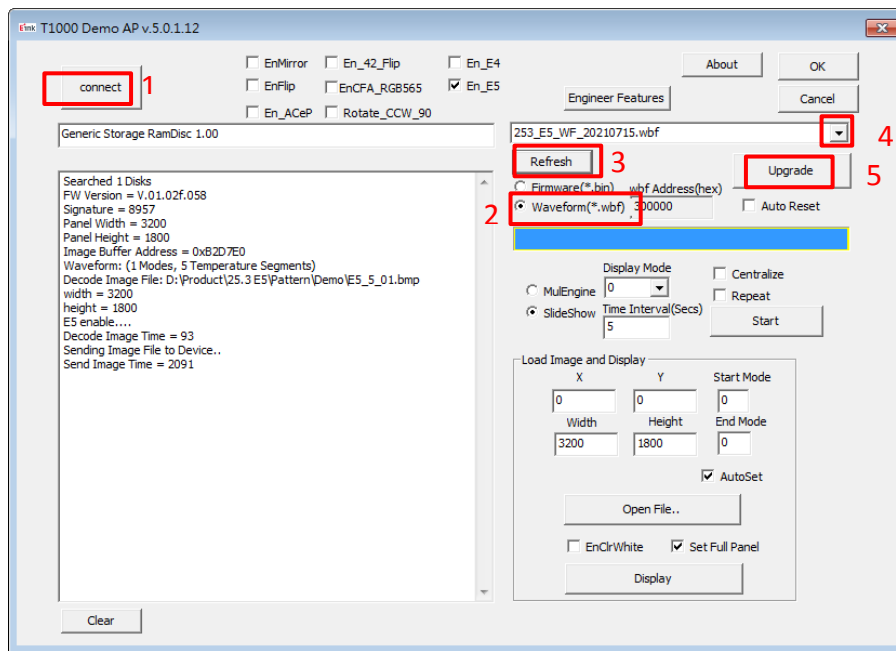

Figure 3.5
(3) How to upgrade waveform
- ◆ Execute T1000 Demo AP(refer to Figure 3.5)